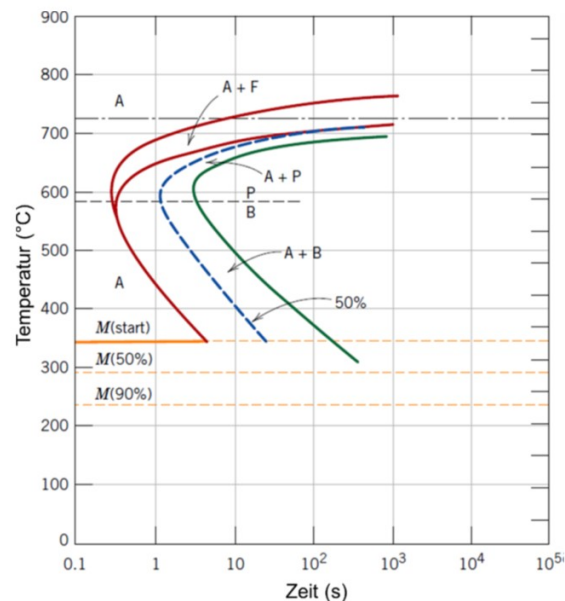

Figure 2: Time-temperature-transformation (TTT) diagram for a Fe-C alloy with 0,45 wt.-% C.
1. Sketch suitable time-temperature paths in Figure 2 to produce the following microstructures: